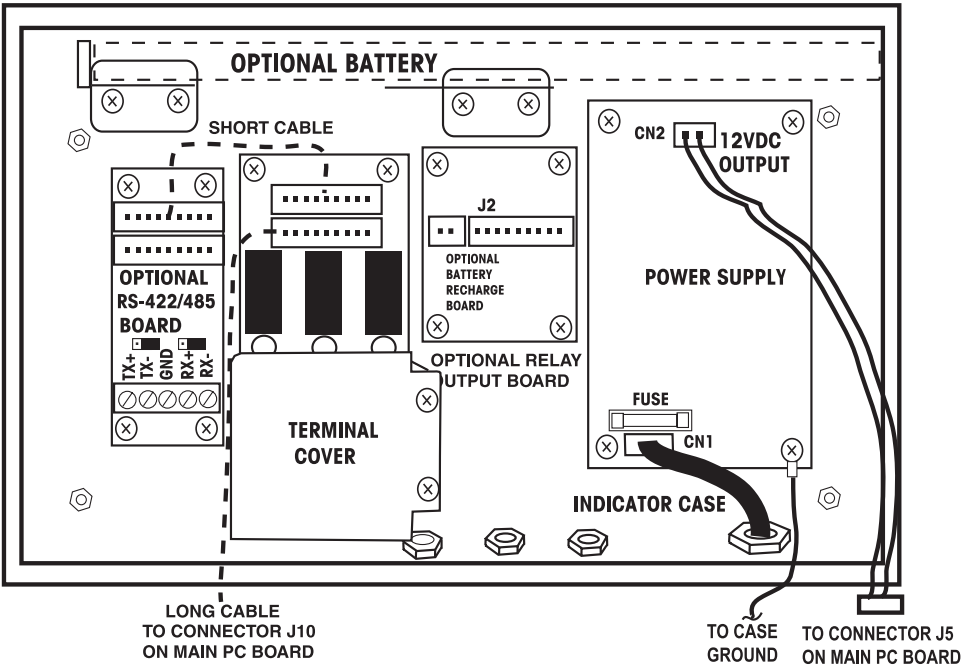

Figure 3-8 Relay Board with cover.
3. Locate the Relay board cover as shown in Figure 3-8 and remove the cover screws.